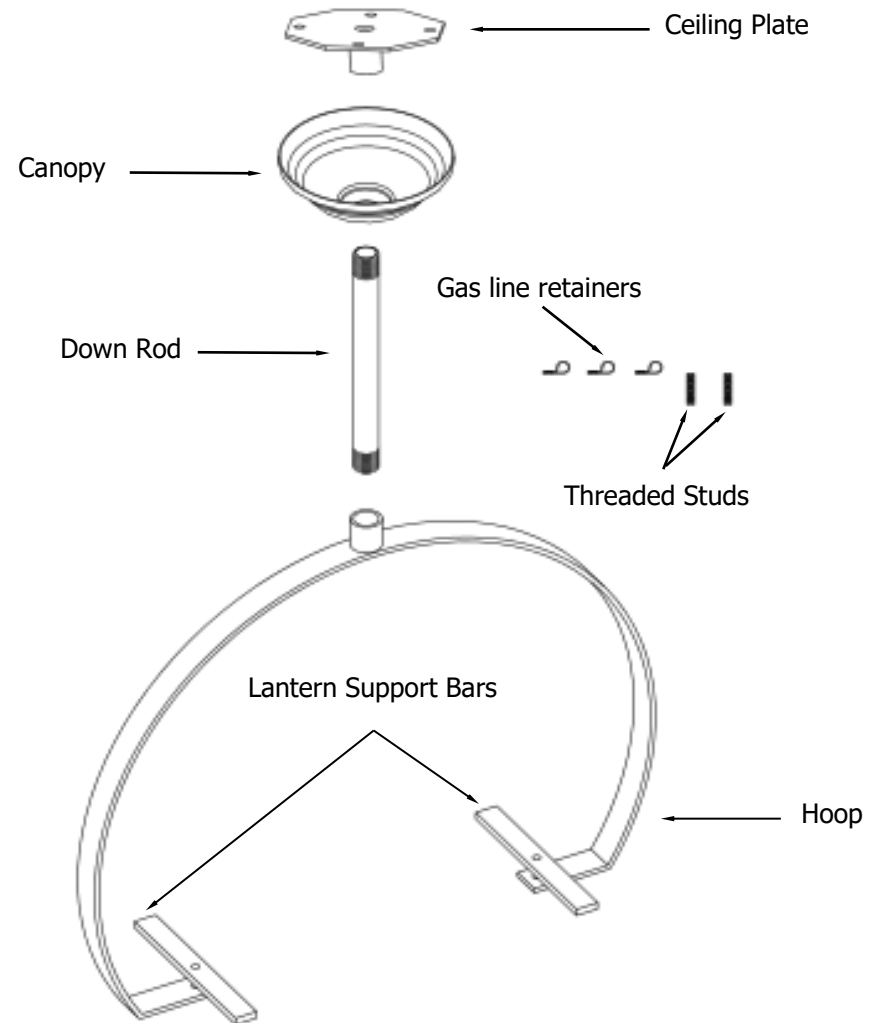

Fig. 1
1. Remove yoke from packing and assure that all of the parts in figure 1 are included in the parts bag.